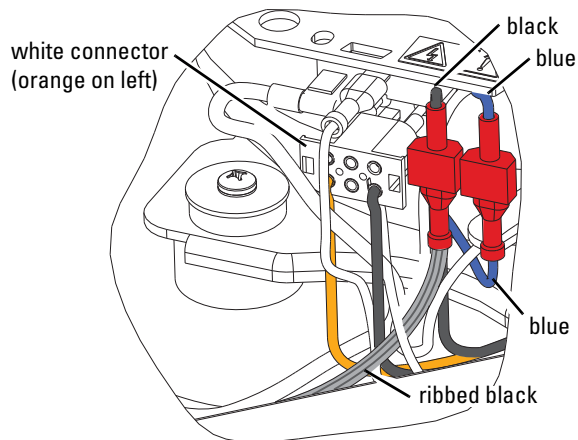

Figure 6: 115 VAC wiring connections
- Unplug the white connector with the orange and black wires from the bottom 2 pins on the compressor (Figure 6). On newer models this connector will be black and the wires will be orange and white. The orange wire always goes to the left.
- Disconnect the blue wire from the capacitor/relay assembly from the blue wire from the power supply (Figure 6). On newer power supplies the power supply wire will be gray.
Refer to Figure 6 for steps 7 through 9.
7. Plug the black connector from the new assembly onto the compressor pins below the terminals. Be sure the black connector is oriented so the orange wire is on the left side (Figure 6).
9. Connect the blue wire from the capacitor/relay assembly to the blue wire from the power supply. On newer power supplies the power supply wire will be gray. (Figure 6)